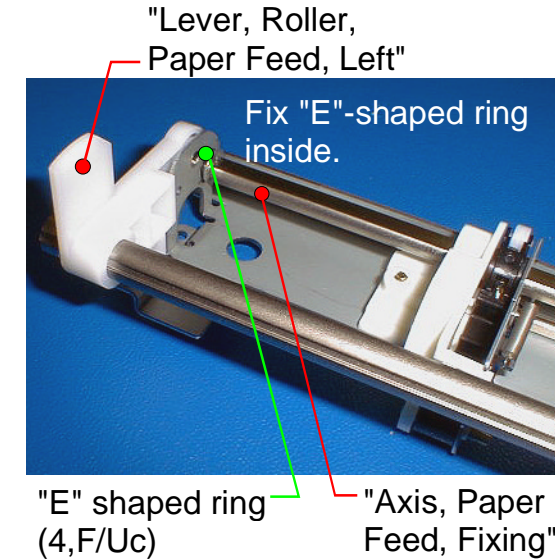

Figure 4-167. Fixing "Axis, Paper Feed, Fixing"
34. Make sure that the harness from "Upper Surface Sensor" is under "Axis, Paper Feed, Fixing", which was installed at procedure 33, and attach "E" shaped ring to the ditch for fixing "E" shaped ring. (See figure4-167)